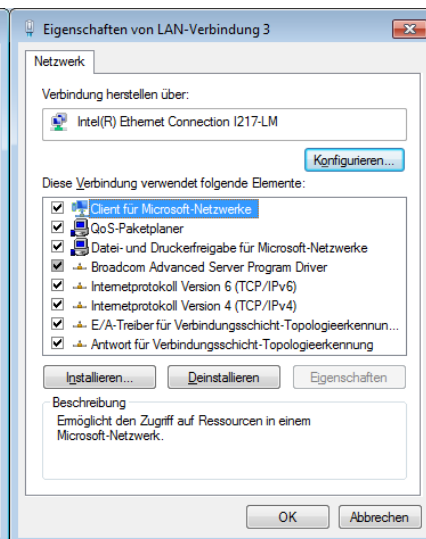

Figure 2
- With a < double click > on Internet Protocol (figure 2) the function is started.